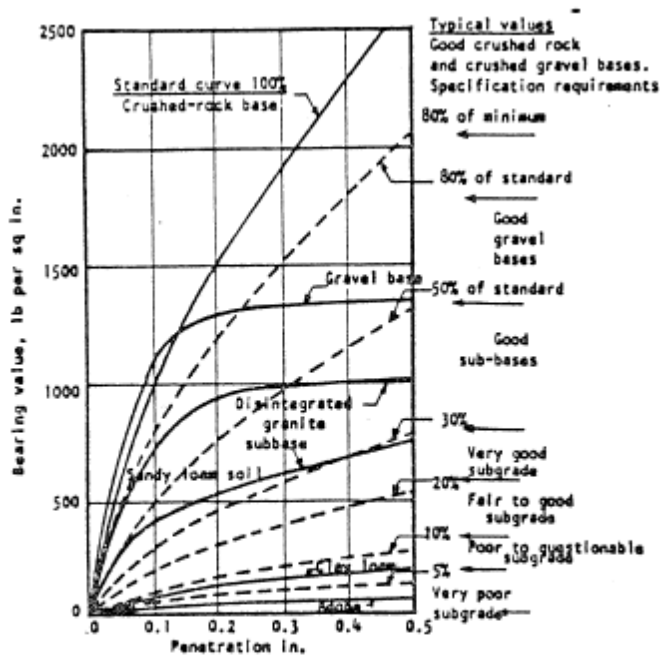

Figure 2-1.7. CBR Testing Procedure and Load-Penetration Curves for Typical Soils.
Q.3 The below Figure. 2-1.7 refers to the CBR results showing penetration of the piston in X-axis and bearing value on Y-axis. At y-axis right side of the graph, it shows ranges in percentage from 5% to 100% referring to different degrees of the subgrade (any material) quality in reference to CBR test.
As defined in above paragraph, CBR is the determination of soil resistance to penetration. The more the resistance is, the more the material will sustain the wheel load. The above diagram (fig. 2.1.7) is showing the resistance of soil against penetration. If the CBR value of a given soil is less than 5%, then its resistance to penetration will be very low and it will be a very poor sub-grade material. If the CBR value of a given soil is between 5% - 10%, then it will be a poor to questionable sub-grade material. Similarly, if the CBR value for a given soil is between 10% - 20% and 20% - 30% then it will be a fair to good and Very good subgrade material respectively.